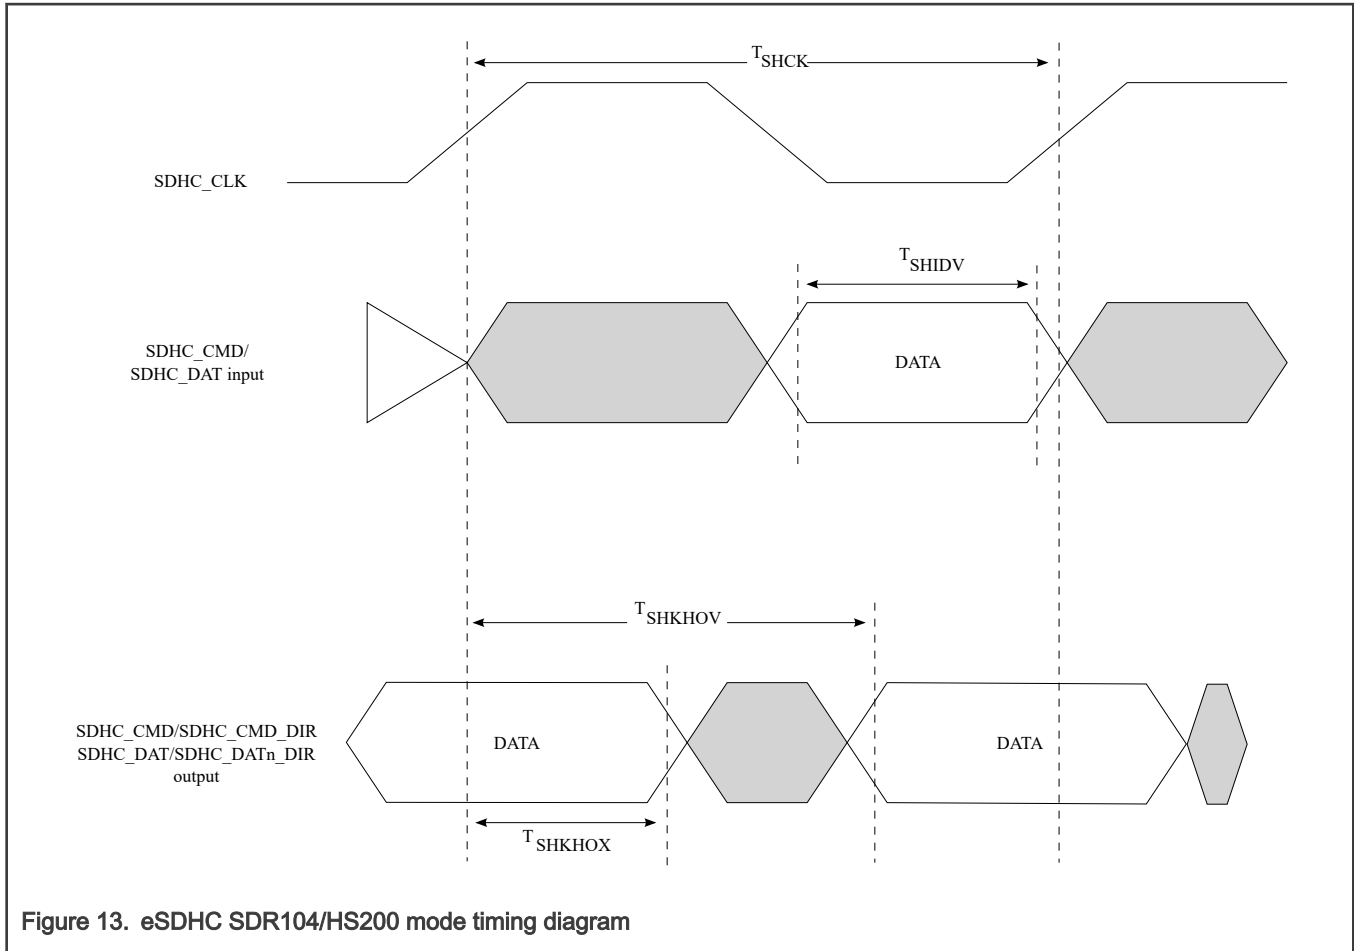

Figure 13. eSDHC SDR104/HS200 mode timing diagram
<p>1. <math>C_L = C_{BUS} + C_{HOST} + C_{CARD} \leq 15pF</math>.</p> <p>2. The symbols used for timing specifications herein follow the pattern of <math>t_{(first\ two\ letters\ of\ functional\ block)(signal)(state)\ (reference)(state)}</math> for inputs and <math>t_{(first\ two\ letters\ of\ functional\ block)(reference)(state)(signal)(state)}</math> for outputs. For example, <math>t_{SHKHGX}</math> symbolizes eSDHC highspeed mode device timing (SH) clock reference (K) going to the high (H) state, with respect to the output (O) reaching the invalid state (X) or output hold time. Note that in general, the clock reference symbol is based on five letters representing the clock of a particular functional. For rise and fall times, the latter convention is used with the appropriate letter: R (rise) or F (fall).</p> <p>3. See <a href="#">Figure 13</a>.</p> <p>4. Characterized.</p>
5. For HS400 without enhanced strobe (DQS) command, see Figure 13.